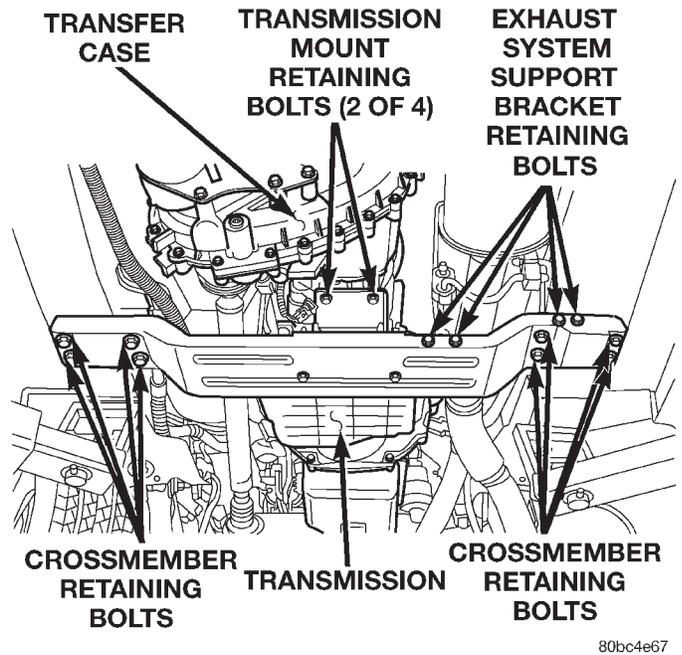

Fig. 18 Transmission Support Crossmember Position & Orientation
(14) Remove the (4) exhaust system support bracket retaining bolts from the transmission support crossmember (Fig. 18).
(15) Unclip the wire harness from the transmission support crossmember.
(16) Position a jack under the transmission support crossmember.
(17) Remove the (8) transmission support crossmember retaining bolts (Fig. 18).
(18) Position a transmission jack under the transfer case.
(19) Lower the transmission assembly enough to gain access and remove the transfer case to transmission retaining nuts.
(20) Remove the transfer case from the vehicle.
(21) Remove the jack from the transmission support crossmember.
(22) Remove the (4) transmission mount retaining bolts (Fig. 18) and remove the transmission support crossmember and mount from the vehicle.